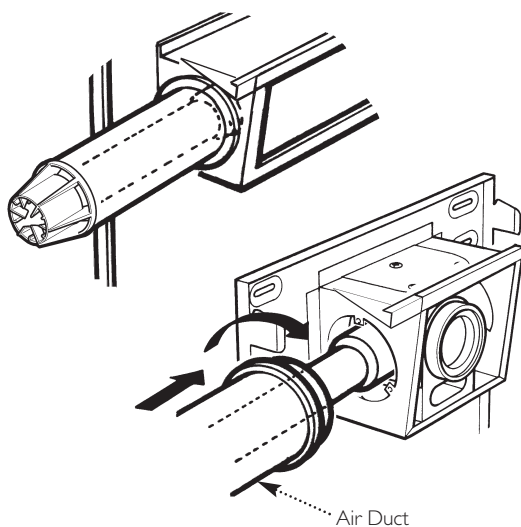

Fig. 56
5. Fit the air duct over the flue duct and draw towards the air box on the back plate. Engage the bayonet slots of the air duct over the location lugs of the back plate opening and press and turn clockwise to secure the air duct to the air box (Fig 56).